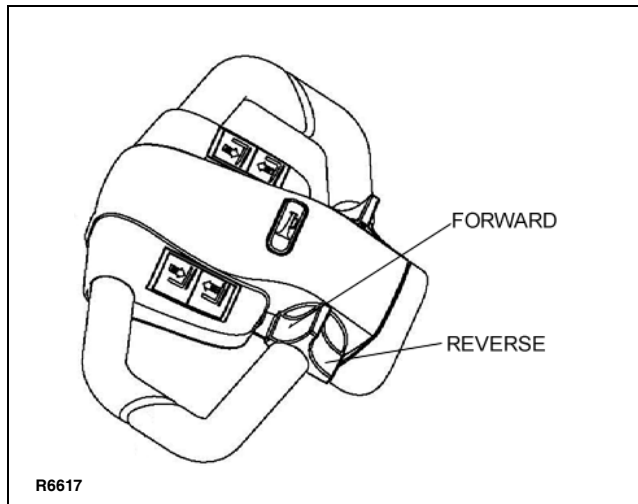

Figure 2-3 Forward/Reverse Control
The speed control (See Figure 2-3) located on each side of the control head provides fingertip control for driving the truck. Rotate the control in the direction you want to travel. The farther you rotate the control from the neutral position, the faster the truck will travel.
3. To move forward (with load in back), slowly press the speed control forward. See Figure 2-3. Press the forward speed control farther to increase speed.
5. Procedures for movement in reverse are the same as in the forward direction except slowly press the speed control backward. See Figure 2-3.